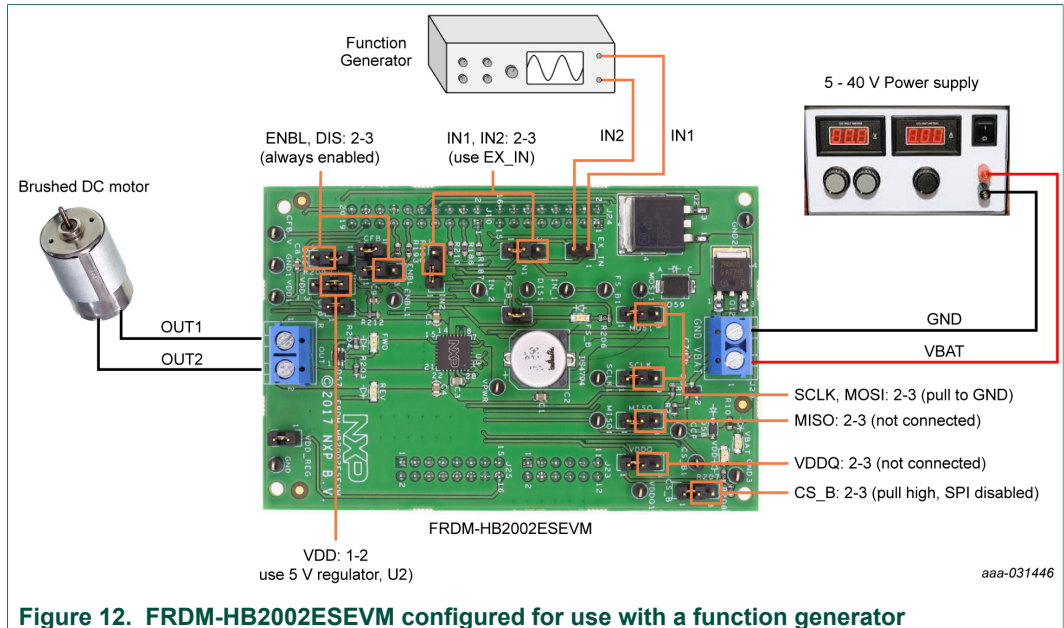

Figure 12. FRDM-HB2002ESEVM configured for use with a function generator
Figure 12 illustrates the typical hardware configuration using a function generator.
2. Change the board jumper connections, as shown in Figure 12.